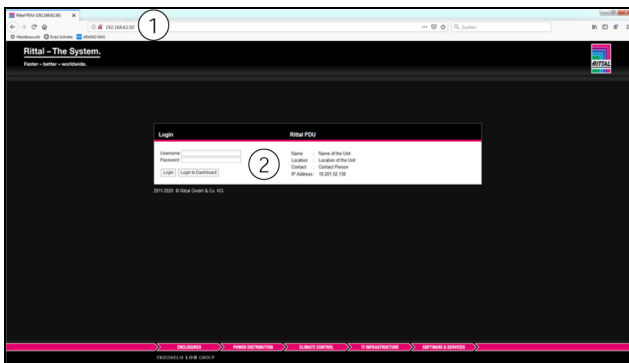

Fig. 34: Login dialogue for login on the device
- Enter the displayed IP address in the browser. In the example, `http://10.201.52.138` (see fig. 34, item 1). The login dialogue for login on the device is displayed
- Log in with the username **admin** and the password **admin** (fig. 34, item 2).
- In the browser, enter the address **http://192.168.0.200** (fig. 34, item 1). The logon dialog for logging on to the device will be displayed.